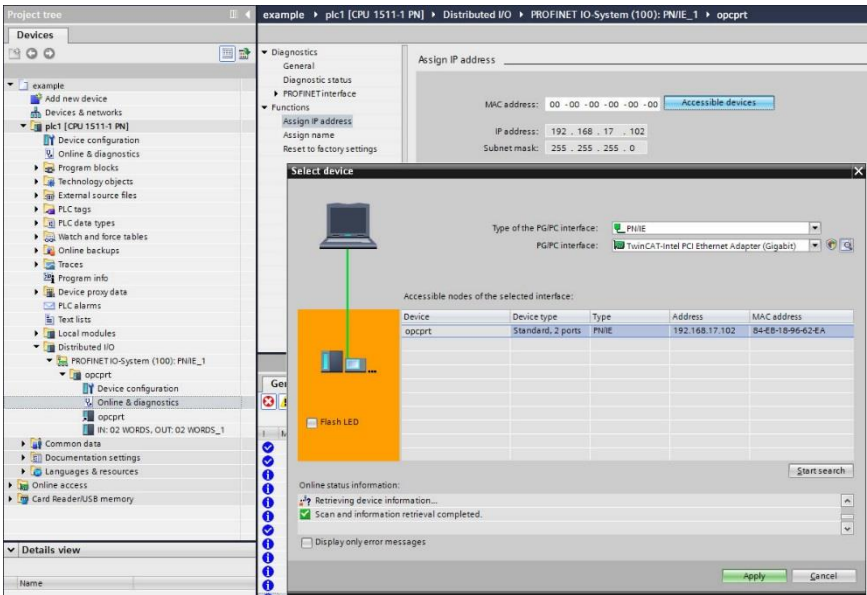

Figure 82: Discover PROFINET Devices on the Network
In the **Project tree**, expand **plc1...Distributed I/O...PROFINET IO-System (100):PN/IE_1**. Expand the device and double-click **Online & diagnostics**. In the next panel, expand **Functions** and select the **Assign IP address** node. Click the **Accessible devices** button. Select the appropriate **PG/PC interface** and click the **Start search** button to discover and display the PROFINET devices on the network as shown in Figure 82. Select the device and click the **Apply** button.